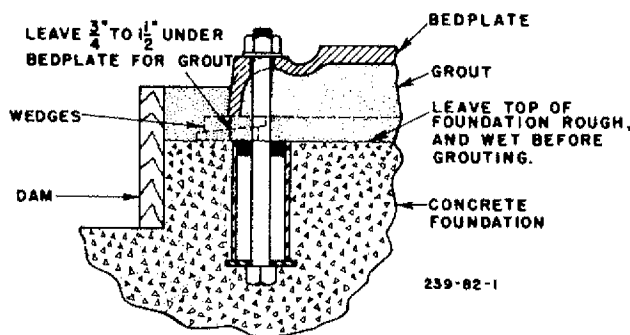

Fig. 1
- (b) Each bolt should be installed with a pipe sleeve around it—to allow for adjustment. The inside sleeve diameter should be $2\frac{1}{2}$ to 3 times the diameter of the bolt. Place a washer between bolt head and sleeve to hold bolt in position. See Fig. 1.
after allowance has been made for grouting ($\frac{3}{4}$ " to $1\frac{1}{2}$ "), the thickness of the bedplate, and the thickness of the foundation bolt nut. See Fig. 1.
- (a) Build wood dam around foundation as shown in Fig. 1 and wet top surface of concrete foundation thoroughly.